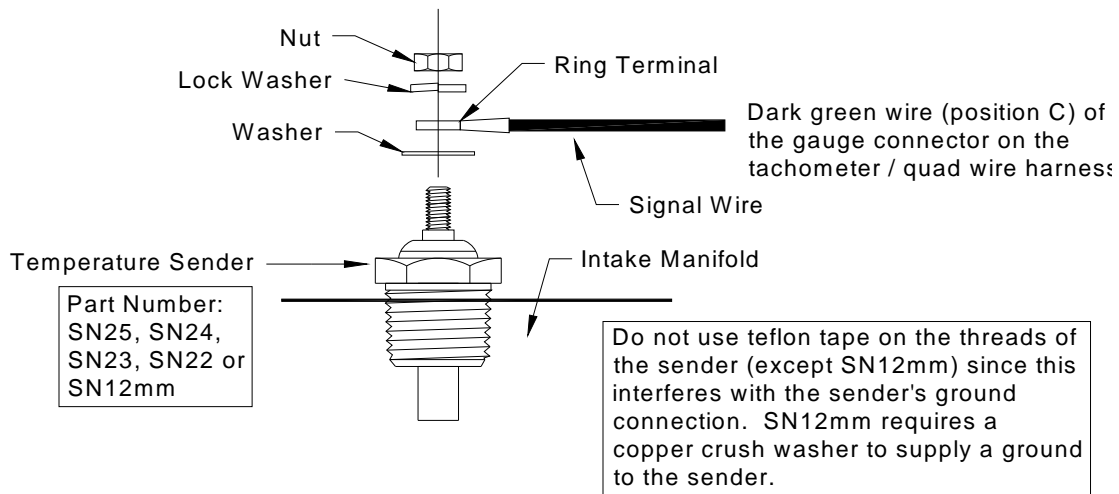

Figure 4: Temperature Sender Wiring
- 4) Connect the **dark green** wire (position C) of gauge connector on the tachometer / quad wire harness to the supplied Classic Instruments temperature sender. (*see figure 4*)